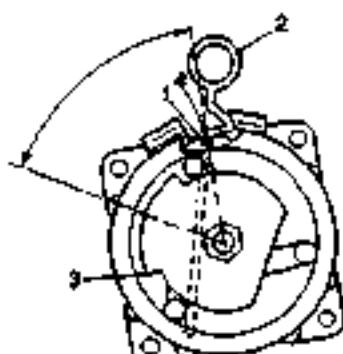

Figure 1.
5. Remove the plug from the oil filler hole (1 Fig. 1).
6. Rotate the counter weight (3 Fig. 1) on the front of the clutch to allow the dipstick (2 Fig. 1) to penetrate to its fullest extent.
5. Insert the dipstick to its stop position (4 Fig. 1). The point of dipstick angle should be facing left.